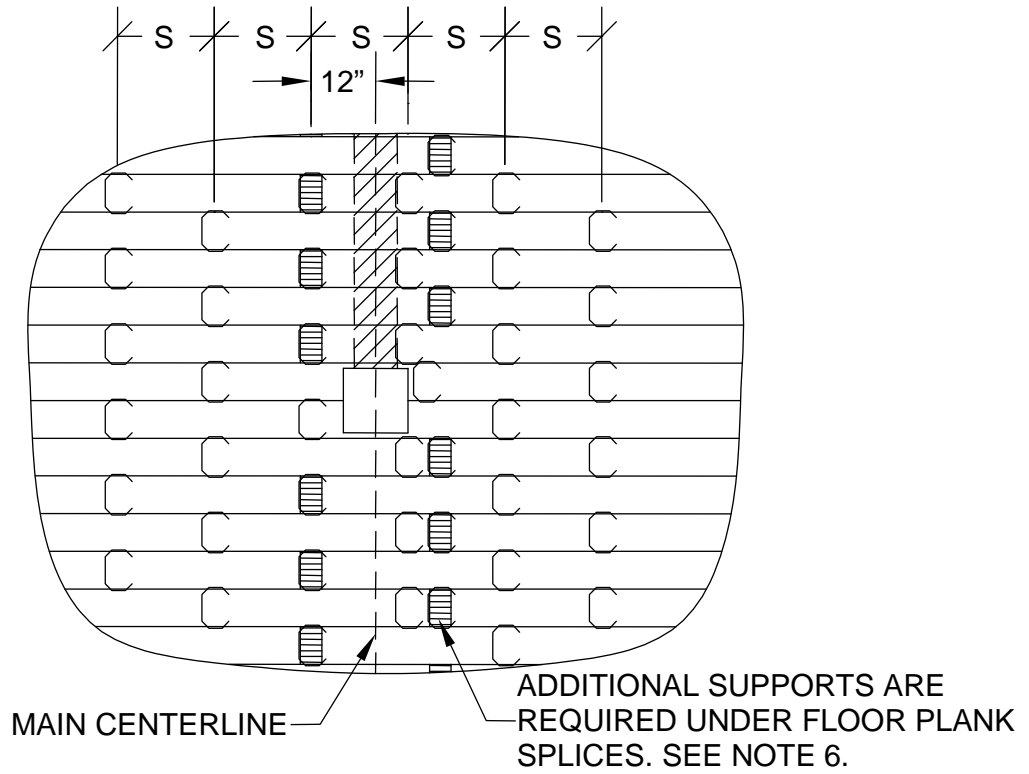

FIGURE 36.2: Support Orientation – 3604 to 3607
2. For bin models 3605 – 3607 mark first chalkline 12" away from one side of main centreline. Mark all other chalklines relative to first chalkline at standard spacing "S" specified in table. See Figure 36.2.
5. Where floor plank splices do not line up with a chalkline, additional supports are included and must be installed directly under each splice as illustrated in Figs. 36.2 and 36.3.